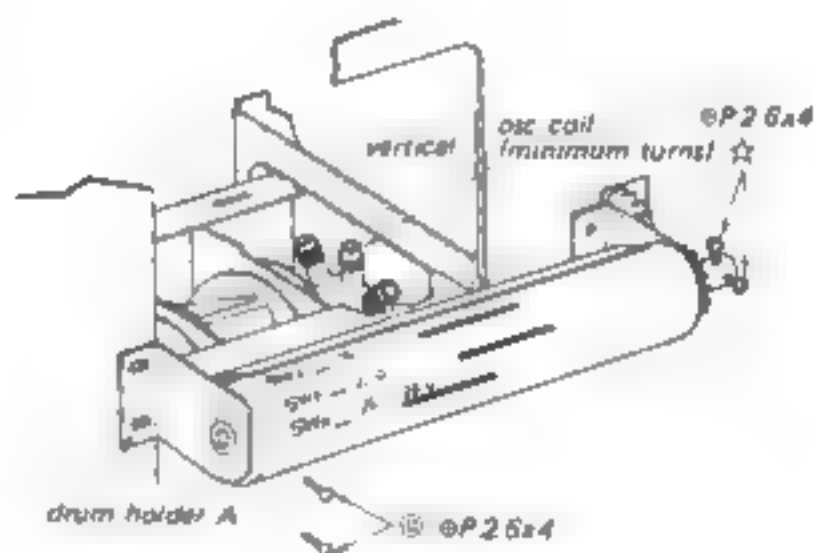

Fig. 2-16
- 5 Remove the drum holder A by removing the two screws marked \odot in Fig. 2-16
- 6 Release the two screws marked \odot in Fig. 2-16.
- 1 Turn the sw band selector so that the osc coil which has the minimum turns comes to the vertical position as shown in Fig. 2-16.
- 2 Attach the dial drum to the drum holders setting the two screws marked \odot in Fig. 2-16.
- 5 Fasten the two screws marked \odot in Fig. 2-16.